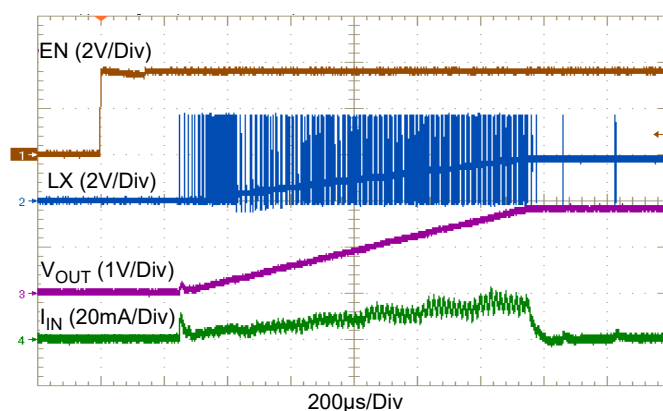

Figure 2. ISL9123/A Start-Up with $V_{IN} = 3.6V$ and $V_{OUT} = 1.8V$
Use the following procedures to configure and power-up the board for proper operation. During the power-on process, the expected waveforms are shown in Figure 2.
6. Monitor the output voltage start-up sequence on the scope. The waveforms should look similar to those shown in Figure 2.